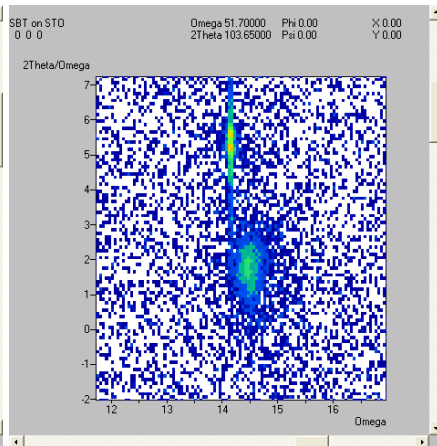

Figure 3-10: Area B
- Repeat the last two steps to extract area B (it should appear as in Figure 3-10 and then with a green outline).